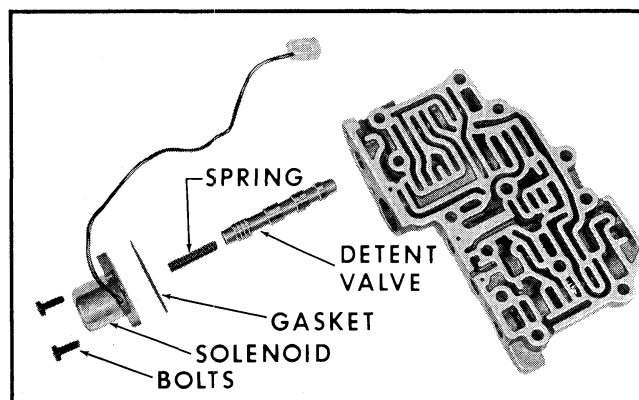

Fig. 7B-48 Downshift Solenoid and Detent Valve - Exploded View
2. Install modulator limit valve and spring (Fig. 7B-45). Depress spring with needle nose pliers and install retaining pin.